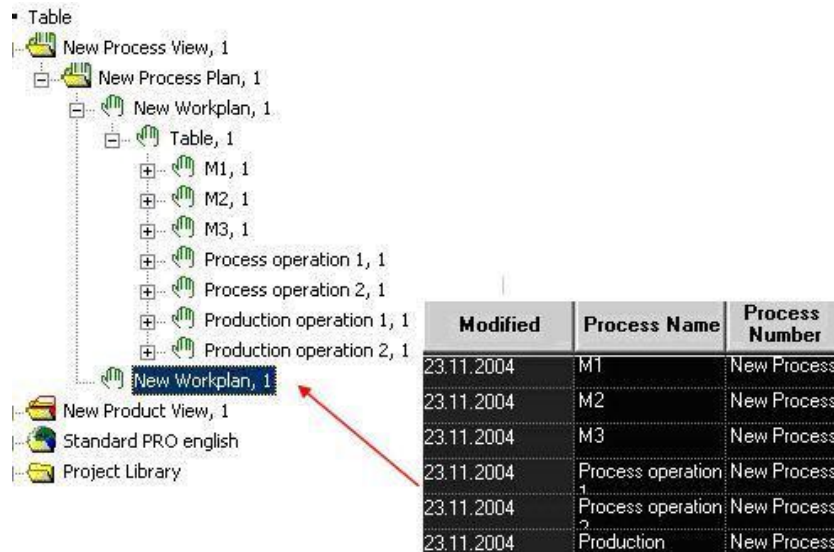

Figure 149: Linking Objects in the Browser by Drag and Drop
- The processes in the table are assigned to this new plantype by drag and drop. *Please refer to the Figure 149.*